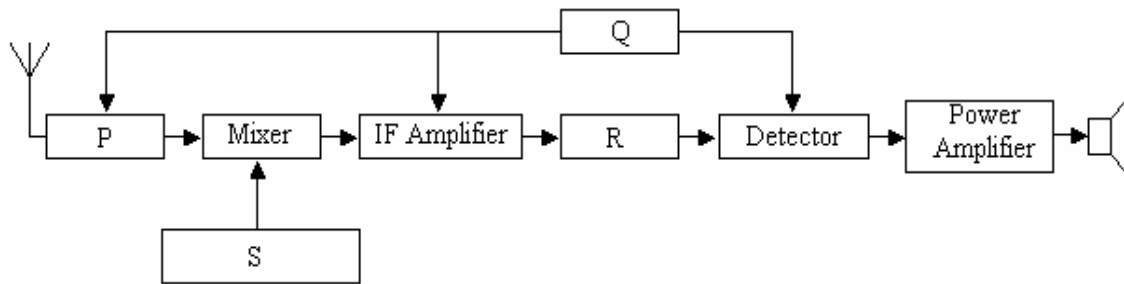

Figure 5
5. Figure 5 shows a block diagram of a FM radio receiver.